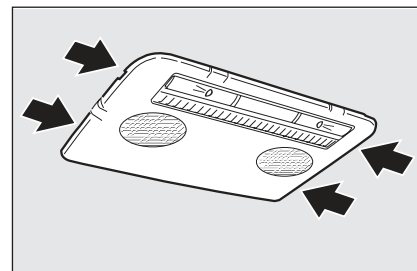

fig. 42
- ☐ remove the front ceiling light working in the points shown by the arrows (see **fig. 42**);